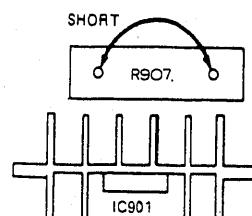

Fig. 2.
4. Set the AC input voltage to 100 volts, and short circuit both terminals of R907 as shown Fig. 2.